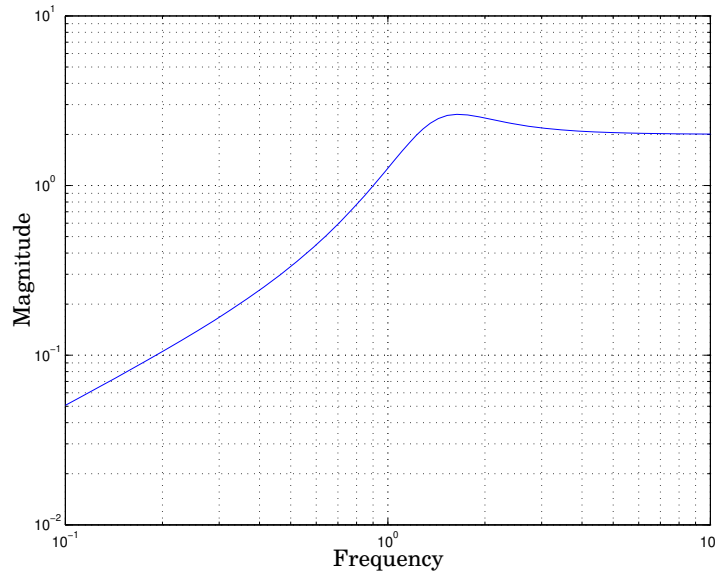

Figure 2.3 Bode magnitude diagram for $G_{vn}(s)$ in Problem 2.2.
- b. Determine the largest gain $\|\Delta\|$ for which the closed-loop system is guaranteed to be stable. The Bode diagram of $G_{vn}(s)$ is provided in Figure 2.3.